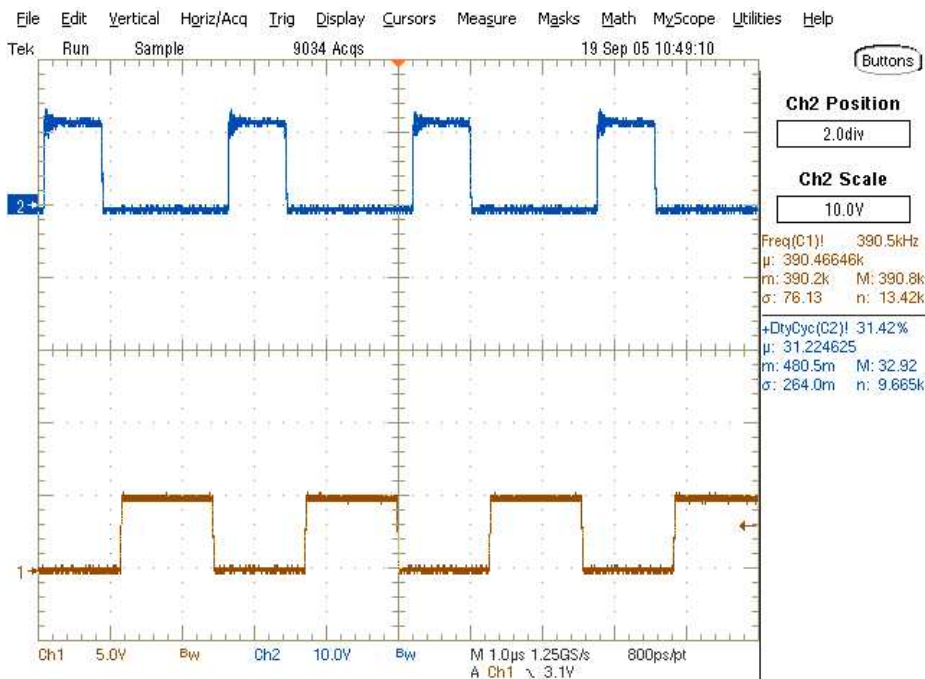

Figure 2. TPS40200 Synchronized to a 50% Duty Cycle External Clock
The following scope picture (Figure 2) shows a 5-V input clock at the TP6 input operating at 390 kHz and a 50% duty cycle. The switch node also shown in the picture is switching at the same frequency with a 12-V V_{CC} supply. The RC operating frequency of the TPS40200 is set by R3 and C5 to be 300 kHz.
2. Prior to connecting the dc-input source, V_{12V_IN} , it is advisable to limit the source current from V_{12V_IN} to 5 A maximum. Ensure that V_{12V_IN} is initially set to 0 V and connected as shown in Figure 2.